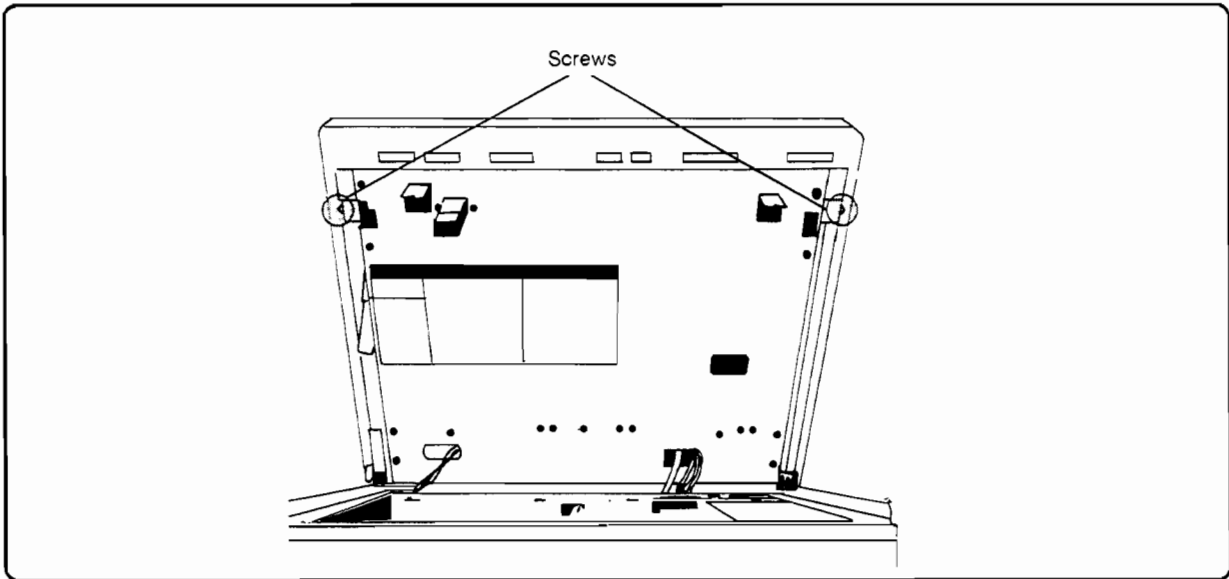

Figure 6-17. Top Cover Side Screws
3. Remove the left and right frame-to-cover screws (Figure 6-17).